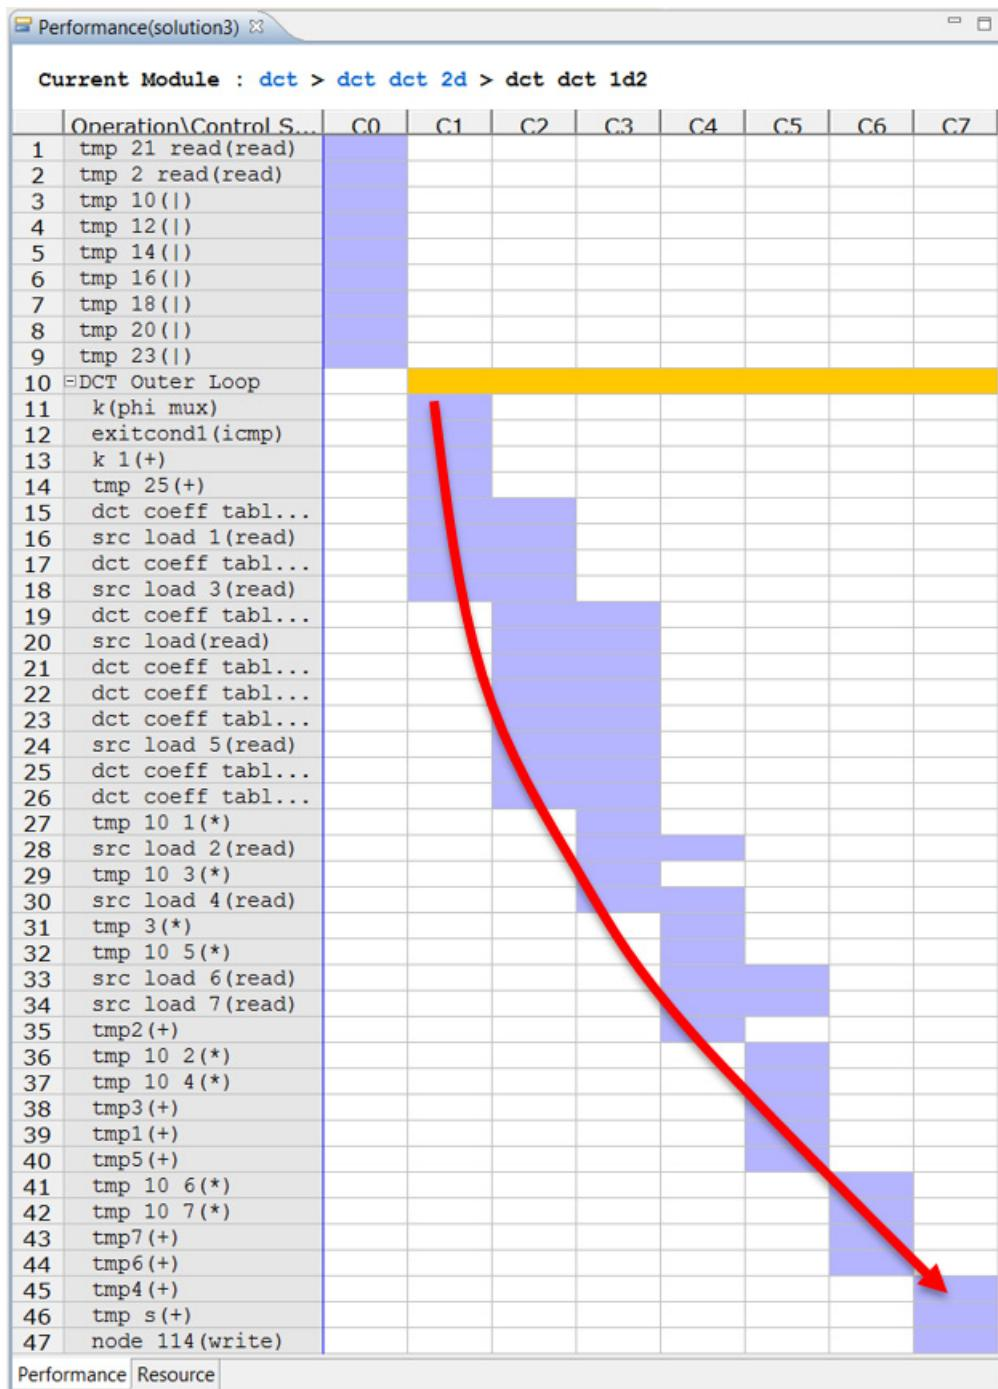

Figure 6-23: Analysis of dct_1d RD_Loop_Row
13. Expand the `DCT_Outer_Loop` to see the view shown in Figure 6-23.
Figure 6-23 shows a very different view from the earlier loop schedules (which had only a few cycles of latency). The schedule shows a long drift from input to output (as shown by the red arrow).
Figure 6-23 shows the analysis of `dct_1d RD_Loop_Row`.